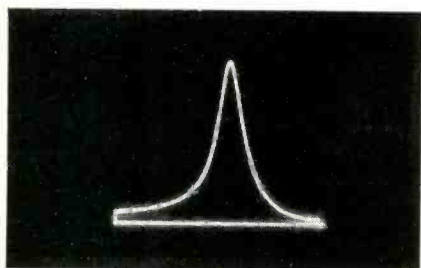

Fig. 2—Bandwidth of a tuned head such as used to troubleshoot sync buzz in *if* circuits is about .5 mc.
A. The response of such a tuned head, shown in Fig. 2, is approximately 0.5 Mc.
The schematic of the Model 160 is shown in Fig. 2. An *rf* oscillator tube V101A provides the *rf* carrier signal which is tuned from Channel 2 through 6 by the control C113. The Bar-Dot oscillator V101B produces the dot or vertical bar signals, depending on which components are switched into the circuit. V101B operates as a blocking oscillator when producing the dot modulation. It functions as an L-C oscillator when producing vertical bar modulation. These modulation signal voltages are shaped by the crystal CR101 before they are mixed in the Crystal Modulator CR102.
Fig. 2—Circuit diagram of Win-Tronix Model 160 White Dot-Linearity Generator which produces patterns for color kinescope convergence or sweep circuit adjustments. RF carrier tunes from Channel 2 to 6.